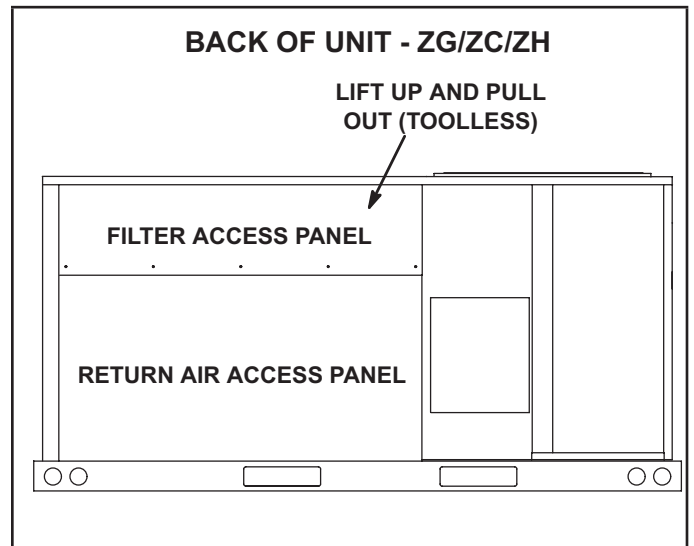

FIGURE 1
- 2 - Remove filter access panel and return air access panel. If hood is already installed, remove hood. See figure 1.